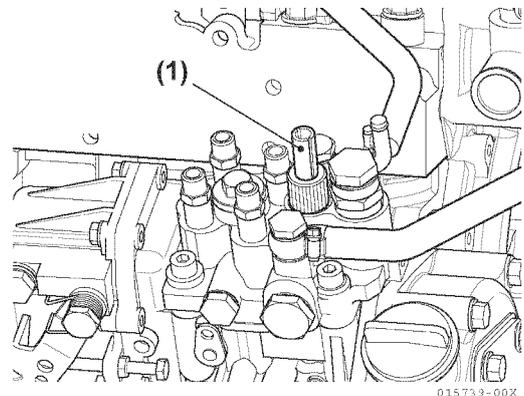

**Figure 6-81**
2. Clamp shut the fuel injection pump fuel return hose (**Figure 6-81, (1)**). *NOTICE: Clean the top of the fuel injection pump to prevent any contamination when the fuel injection pump plunger plug is removed.*
3. Remove the forward fuel injection pump plunger plug (**Figure 6-81, (2)**) on the top of the fuel injection pump. *NOTICE: Do not release the distributor plug (**Figure 6-81, (3)**). Fuel injection order may change from the proper order.*